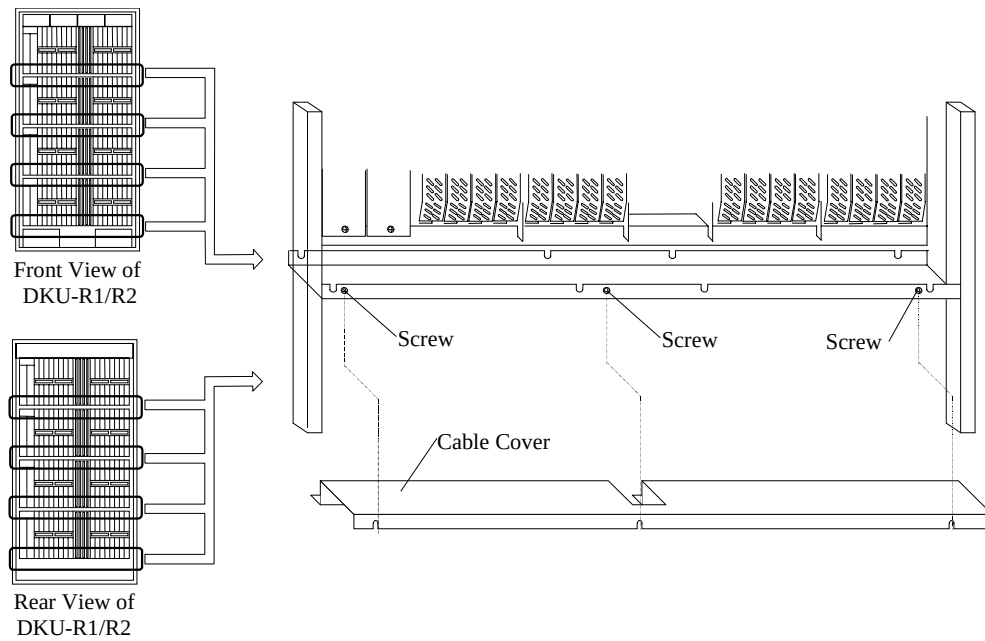

Fig. 3.11.5-2 Removal of Cable Covers
- c. Connect the DEV interface cables to the FSW PCBs in the DKU-R2 frame referring to Fig. 3.11.5-3 through Fig. 3.11.5-6.